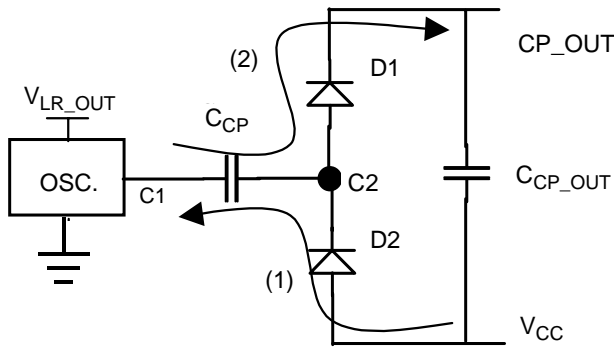

Figure 8. Charge Pump Basic Circuit
The charge pump generates the high-side driver supply voltage (CP_OUT), buffered at C_{CP_OUT} . Figure 8 shows the charge pump basic circuit without load.
When the oscillator is in low state [(1) in Figure 8], C_{CP} is charged through D2 until its voltage reaches $V_{CC} - V_{D2}$. When the oscillator is in high state (2), C_{CP} is discharged through D1 in C_{CP_OUT} , and final voltage of the charge pump, V_{CP_OUT} , is $V_{CC} + V_{LR_OUT} - 2V_D$. The frequency of the 33883 oscillator is about 330 kHz.